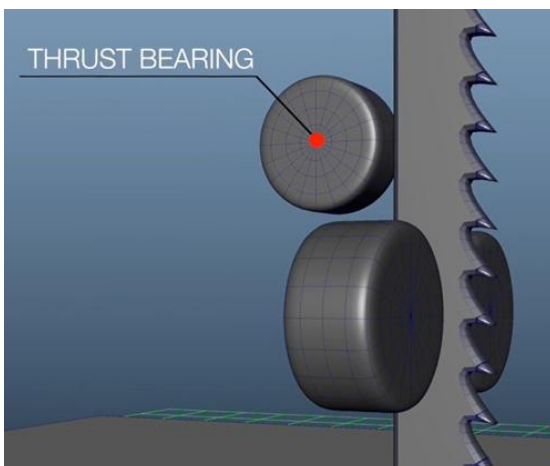

Fig. 52
5. Adjust the thrust adjustment knob to where the thrust bearing is 0,79 mm gap away from the blade. (clockwise=towards blade; counterclockwise=away from blade) (Fig.52)